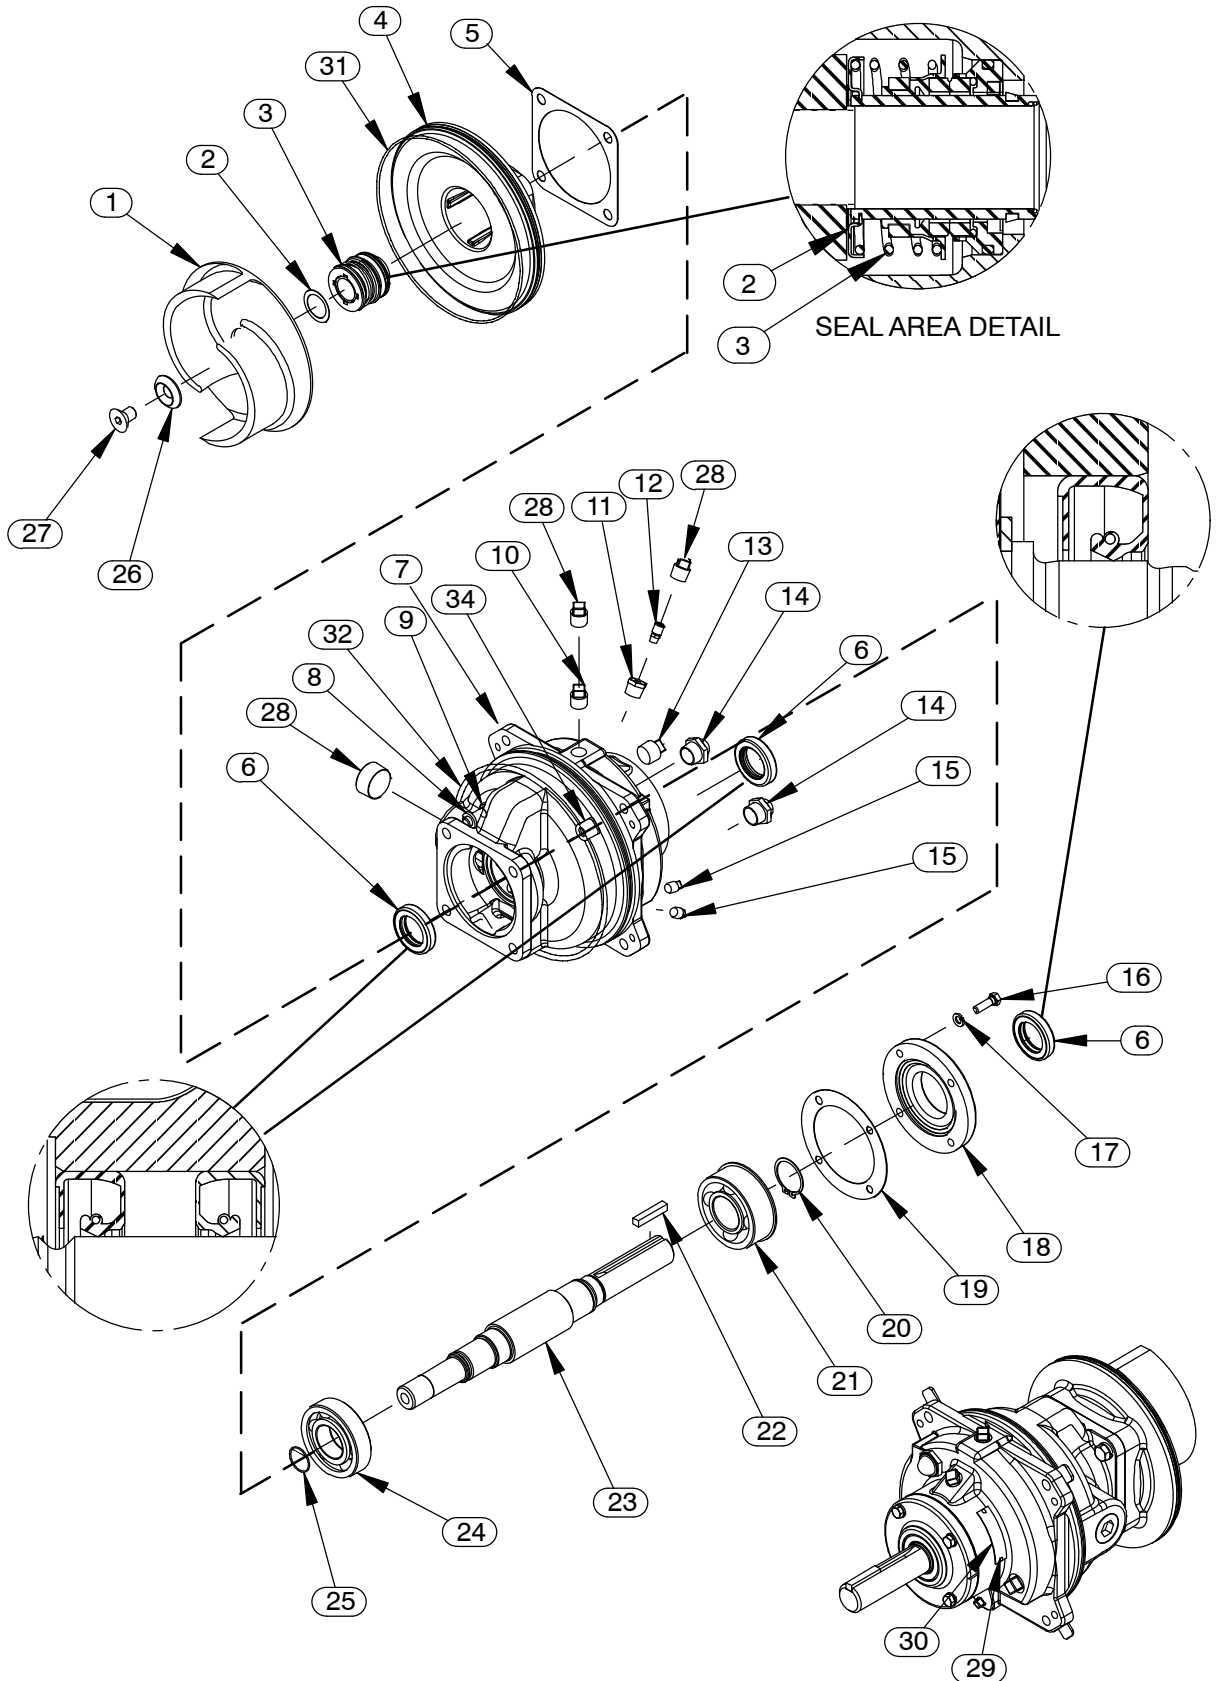

Figure 4. Repair Rotating Assemblies
**Rotating Assembly Removal****(Figure 4)**
*To install the tool, remove the vented plug (10, Figure 4) from the bearing housing, and screw the longest length of pipe into the vent hole until fully engaged. Install the tee, and screw the handles into the tee. Use caution when lifting the rotating assembly to avoid injury to personnel or damage to the assembly*